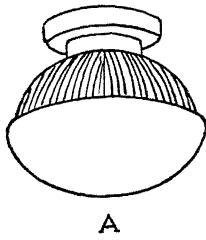

Fig. 10
*Bathroom.*—In a large bathroom, a central ceiling-type fixture as shown in Fig. 10 (A), which has an enclosing globe 8 inches in diameter with a 75-watt bulb, or 10 inches in diameter for a 100-watt bulb, provides light for general moving about. An upright wall bracket (B) at each side of the mirror is also most desirable (see Fig. 16).